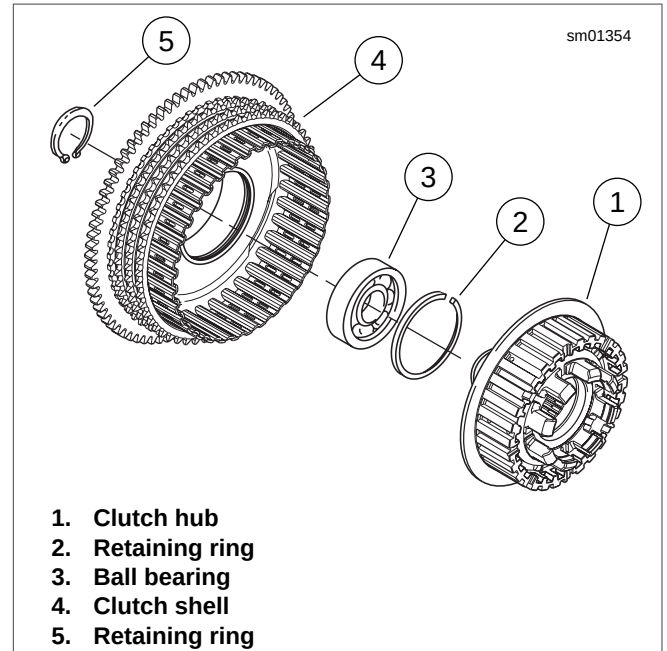

Figure 5-16. Clutch Hub and Shell Assembly
2. See Figure 5-16. If the clutch hub (1) and clutch shell (4) was disassembled, press **new** ball bearing (3) into clutch shell and secure bearing with a **new** retaining ring (2). Press inboard end of clutch hub into clutch shell bearing and secure with a **new** retaining ring (5) on end of hub.